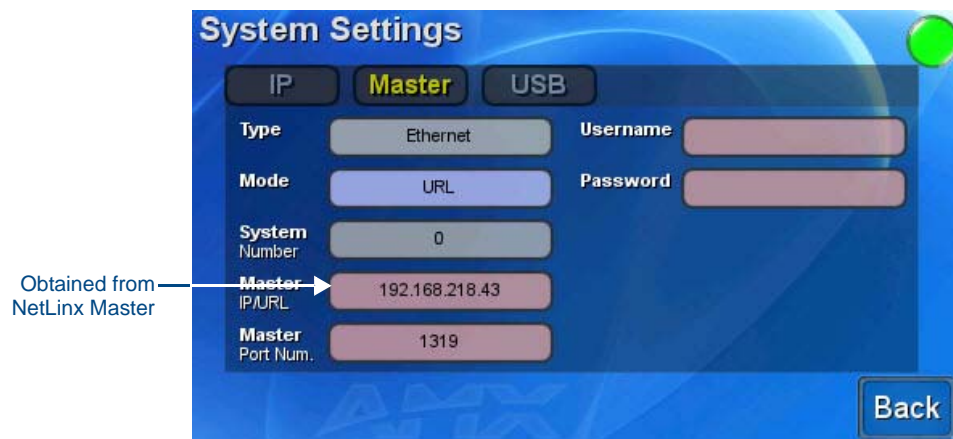

FIG. 32 System Settings Page - Master Tab
2. Select **Protected Setup > System Settings** and click the **Master** tab (FIG. 32).